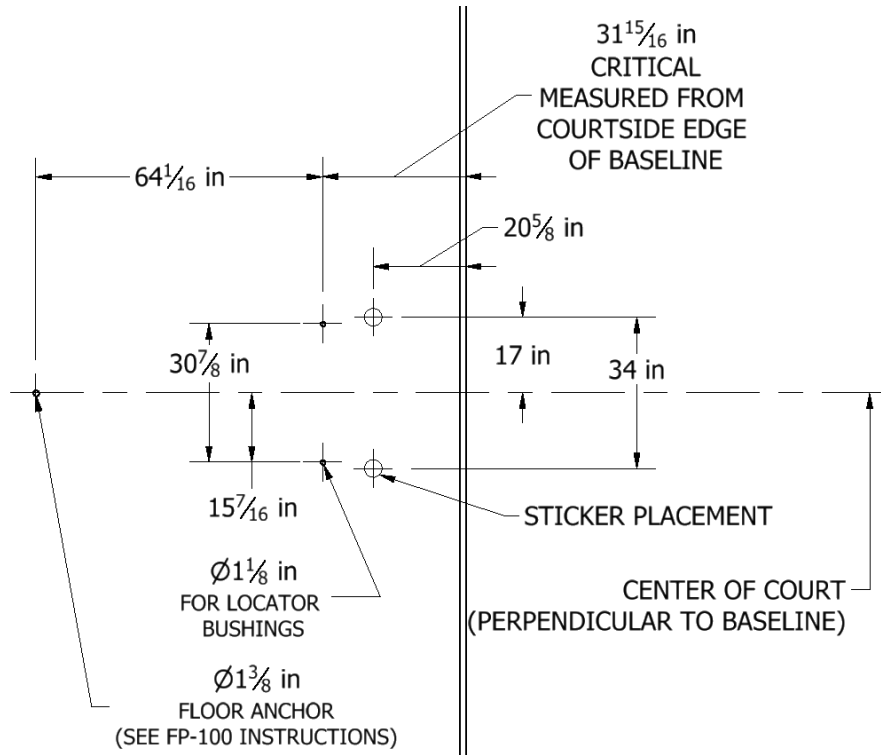

Figure 10-2: PBEL66 Locating and anchor holes and sticker locations.
- b. PBEL66 (66" overhang): refer to Figure 10-2